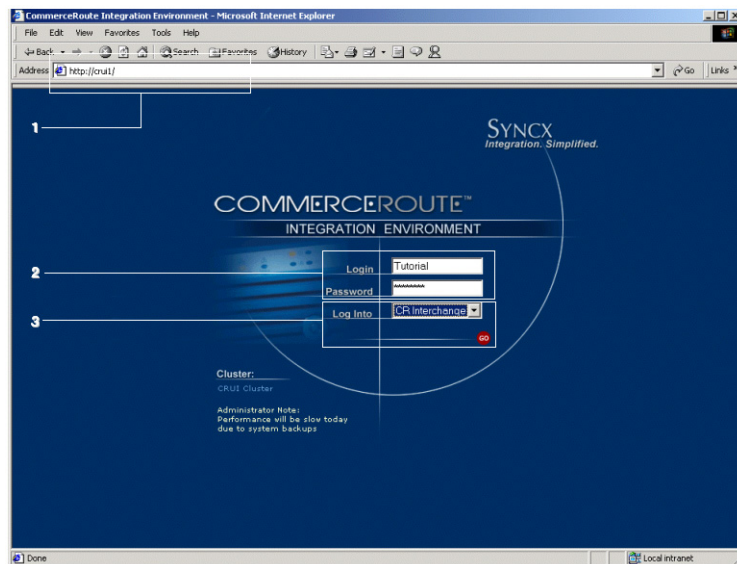

Figure 3-1. Make sure you use the correct login and password for the Tutorial.
- ❶ Using your browser, navigate to the Syncx 6200 Series Appliance Appliance at: `http://ApplianceID` where `ApplianceID` is the name or IP address of your Syncx 6200 Series Appliance. Check with your system administrator if you're not sure of the location of your Appliance on your company's network.
- ❷ Enter `Tutorial` for the username and `tutorial` for your password.
- ❸ Make sure the drop-down menu selection is set to “CR Interchange,” then click the **GO** button (see Figure 3-1 below).